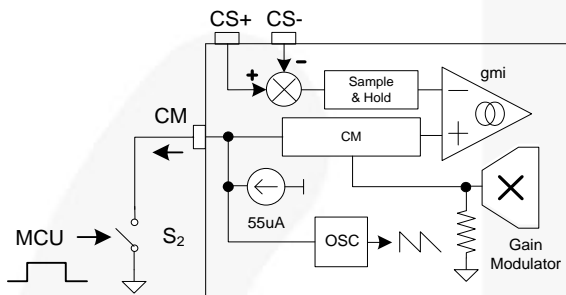
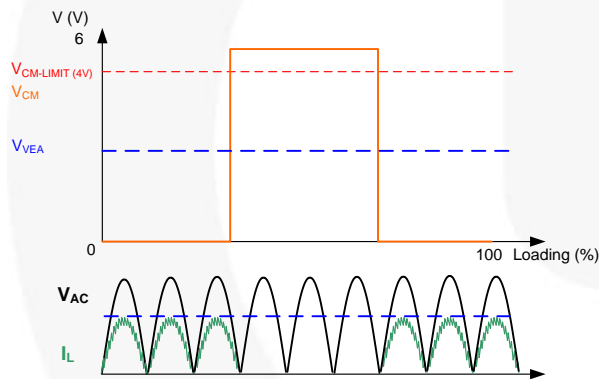

Figure 14. Channel Management by MCU
Figure 15. Channel Management by MCU
To disable the Channel Management (CM) function and control the channels with an external signal from the MCU, the configuration is shown in Figure 14. If $V_{CM} > 4V$, the channel is disabled. To enable the channel, make $V_{CM} = 0V$, as Figure 15 shows.